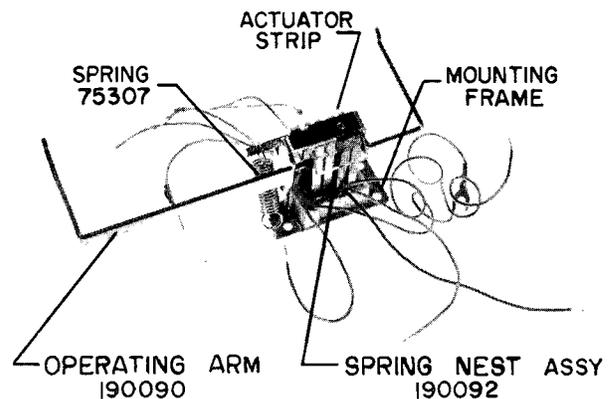

Fig. 2-1 TYPICAL CRADLE SWITCH
2.1 The various parts of the cradle switch are identified in Fig. 2-1.